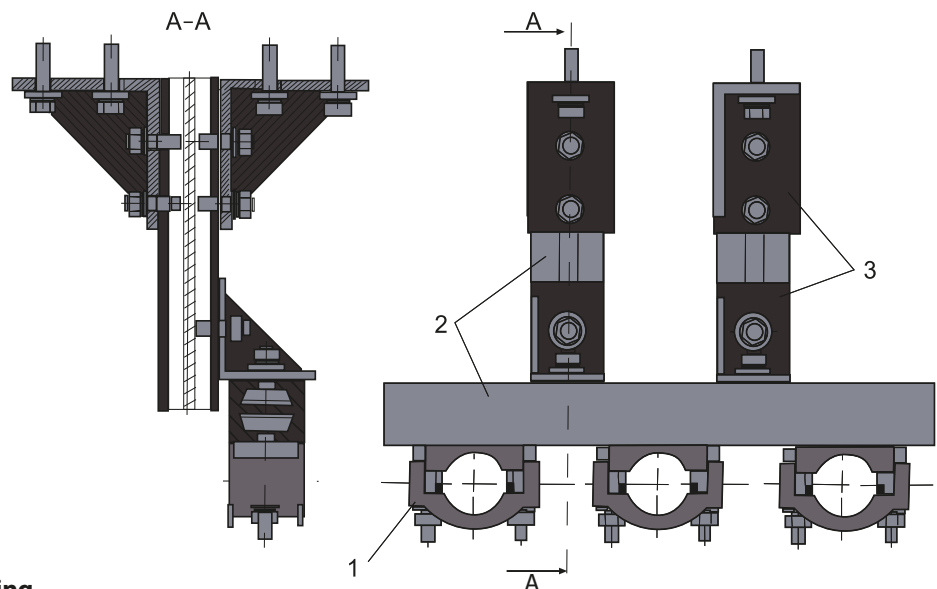

Figure 3.
Fixation of the bus bar (Figure 3) to the walls, ceiling or floors is carried out by means of polyamide clamps (1), aluminum x-profiles (2), fixing angles (3) and hardware.